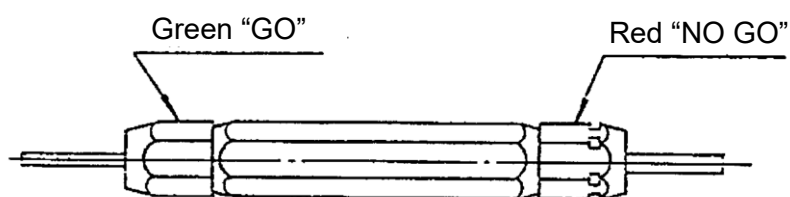

Figure 8. Inspection Pin Gauge
- (b) While the handle is being tightened, check the gap of jaw (virtual diameter) using the inspection pin gauge of M22520/3-01 (See Figure 8). Verify “GO” side pin (green) passes the gap and “NO GO” side pin (red) does not. Perform this inspection every time before performing crimping to ensure proper crimping results.